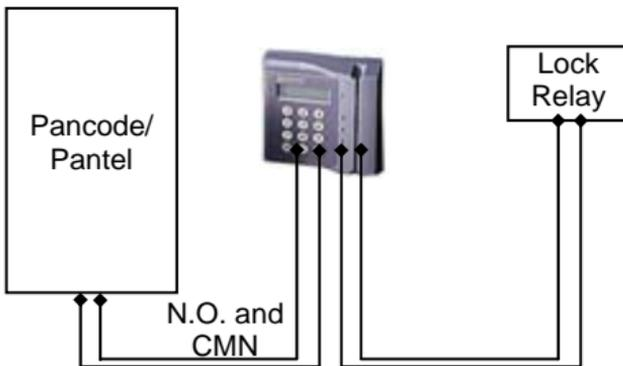

Figure 12. Access Control - Controlling Lock Relay
For this installation, the access-control device “**Bypass Switch**” (SW) wires are connected to the “**N.O.**” and “**CMN**” terminals of the Pantel/Pancode. The door-lock relay wires are connected to the access-control device (see Figure 12).